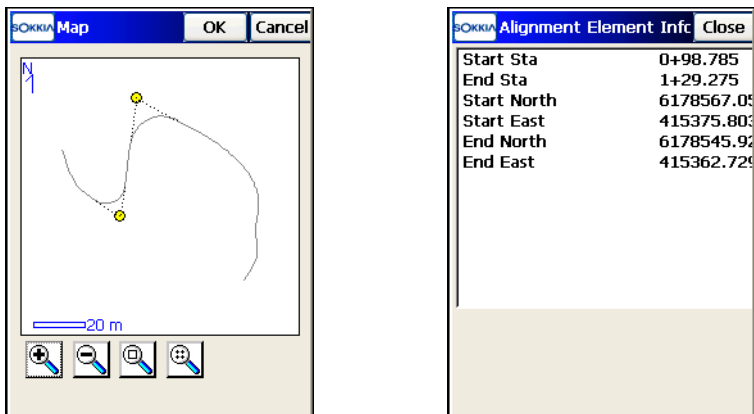

Figure 7-8. Information on Horizontal Alignment Element
- Also, the information on the selected element can display from the greater *Map* opened by double-tapping in the plot area. Select the alignment element and double-tap it to display detailed information (see Figure 7-8 on page 7-7).